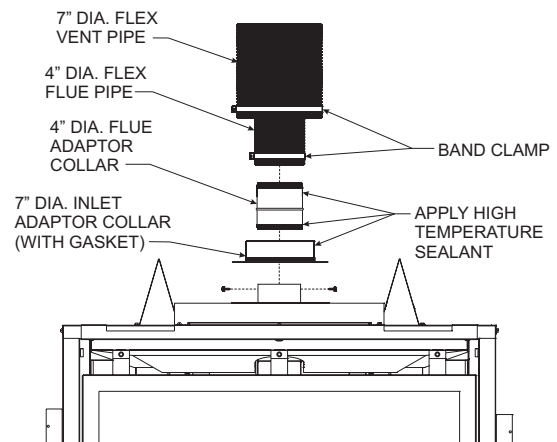

Figure 44
10. Apply sealant to the outside of the flue pipe adapter and connect to the flex flue pipe. Then insert the adapter into the fireplace flue. Secure flue adapter to the fireplace flue with a minimum of two screws provided. See Figure 44.